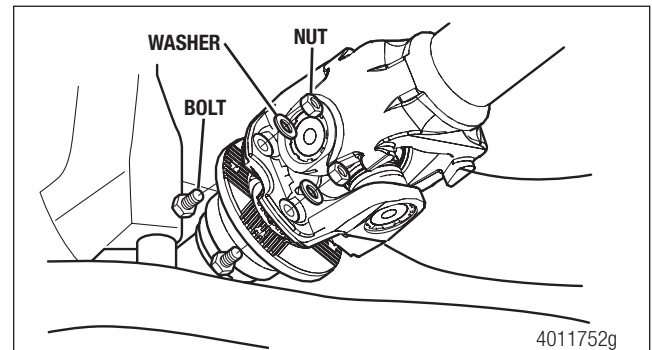

Figure 5.102
3. Install the new bolts, washers and nuts to secure the drive flange to the input drive flange. Tighten the nuts to 133-163 lb-ft (180-220 Nm). Figure 5.102.